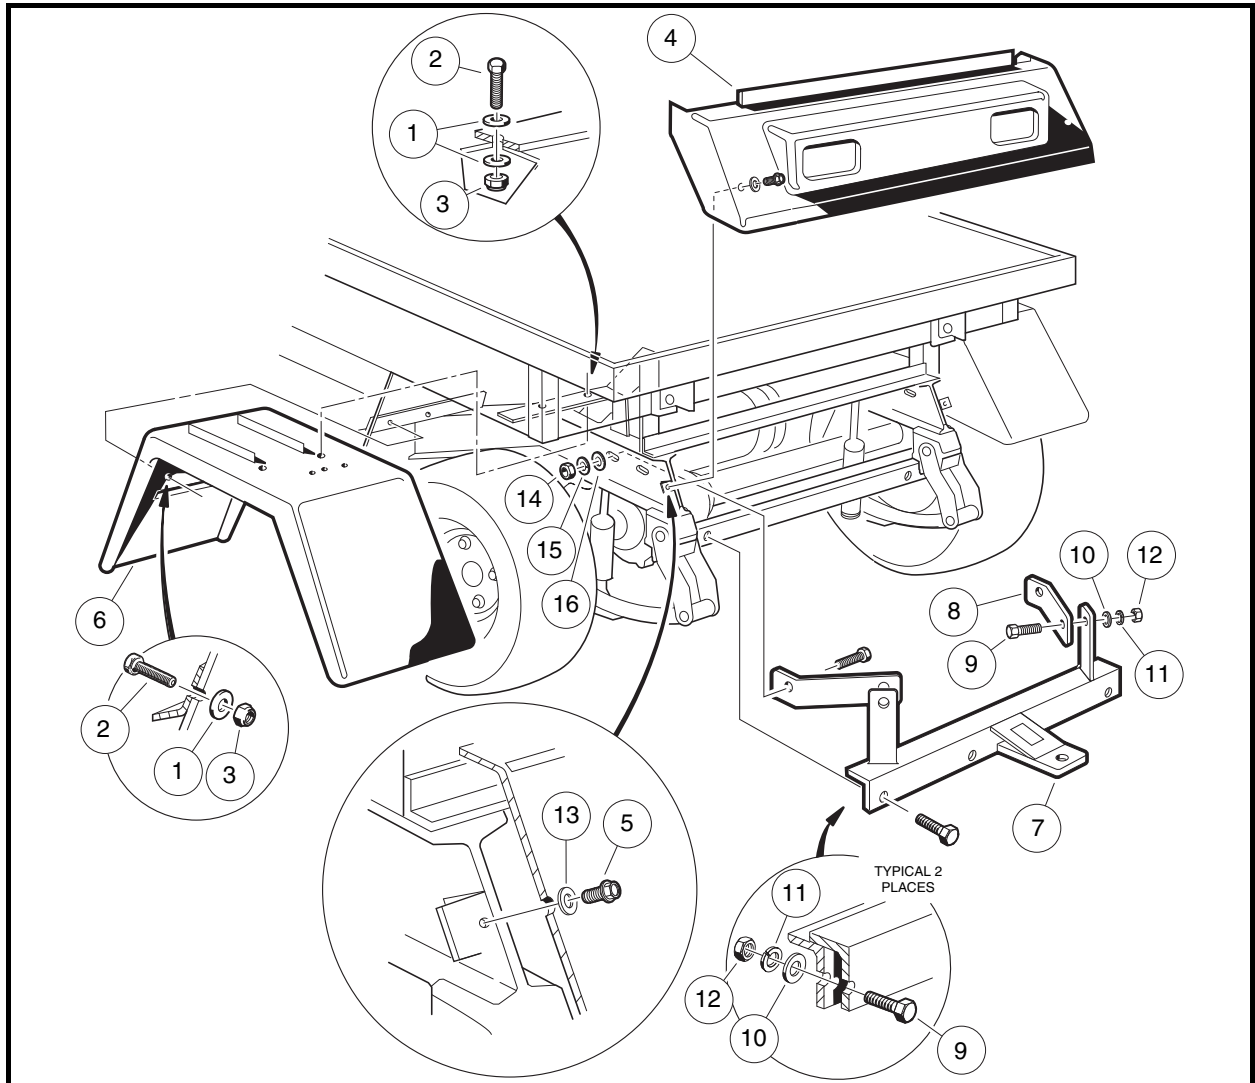
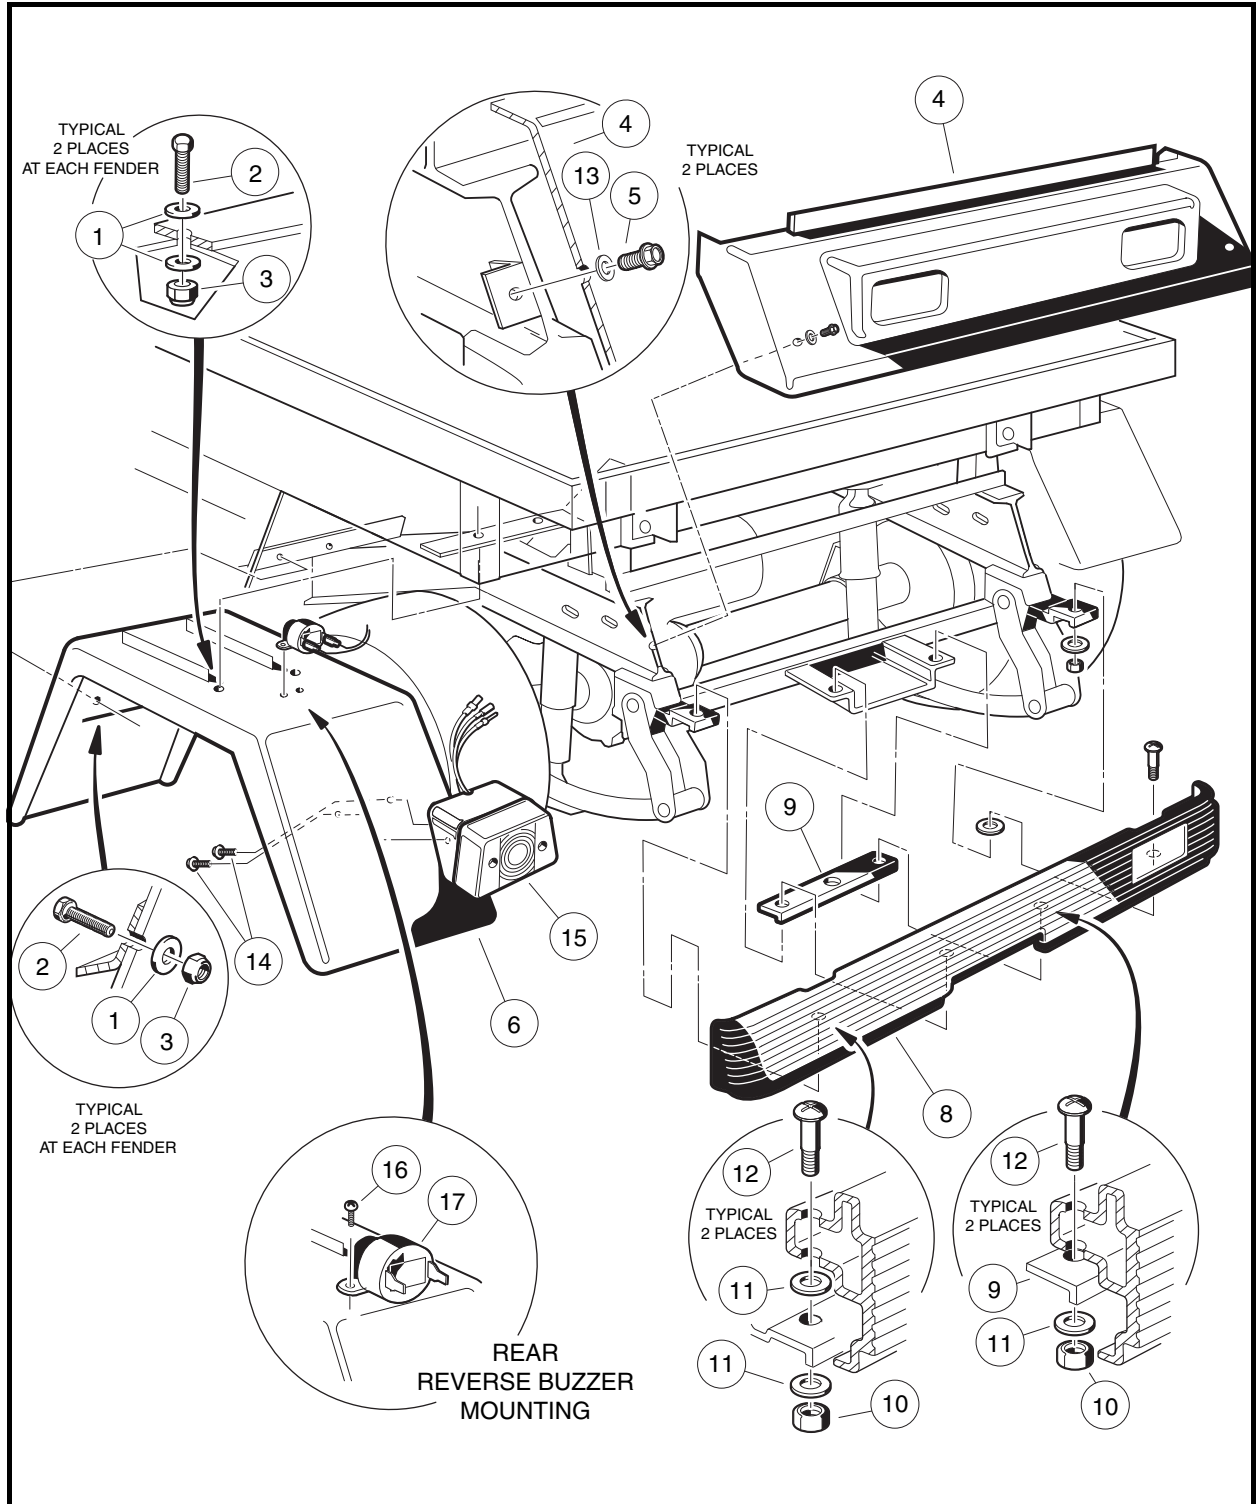

Figure 4-5 Rear Fender, Trailer Hitch (Heavy Duty), and Tailskirt – Turf 1, 2, Carryall 1, 2, and 2 Plus
Figure 4-6 Rear Fender and Tailskirt – Turf 6 and Carryall 6
- 1.1. Remove the two screws (14) that secure taillight (15) to the rear fender (**Figure 4-6, Page 4-14**).
2. Remove two nylon lock nuts (3), flat washers (1), and 1/4 x 1 bolts (2) from front of fender (6) (**Figure 4-5, Page 4-13 or Figure 4-6, Page 4-14**).
3. Remove two nylon lock nuts (3), flat washers (1), and 1/4 x 1 bolts (2) and flat washers (1) from the top of fender (6) (**Figure 4-5, Page 4-13 or Figure 4-6, Page 4-14**).
- 4.1. Remove pan-head screws (16) connecting reverse buzzer (17) to rear fender (6) and disconnect the two wires from the reverse buzzer (**Figure 4-6, Page 4-14**).
5. Remove fender (6) from vehicle (**Figure 4-5, Page 4-13 or Figure 4-6, Page 4-14**).
2. Where the hitch (7) is mounted to frame, remove two nuts (12), lock washers (11), flat washers (10), and bolts (9) (**Figure 4-5, Page 4-13**).
3. Where the hitch (7) is mounted to hitch brace (8), remove the nut (12), lock washer (11), flat washer (10), and bolt (9).
4. Remove hitch (7) from vehicle.
1. Install trailer hitch (7) in the reverse order of removal (**Figure 4-5, Page 4-13**). Tighten hardware to 15 ft-lb (20.3 N·m).
1. Remove two thread-forming screws (5) and flat washers (13) from tailskirt (4) and lift tailskirt from vehicle frame (**Figure 4-5, Page 4-13 or Figure 4-6, Page 4-14**).
1. Insert upper edge of tailskirt (4) under, and in front of, back edge of rear body (**Figure 4-5, Page 4-13 or Figure 4-6, Page 4-14**).
2. Align holes in tailskirt (4) with holes in vehicle frame. Position tailskirt flush against frame.
3. Install two thread-forming screws (5) and flat washers (13) in tailskirt and tighten to 80 in-lb (9.0 N·m).
1. Remove four lock nuts (10), six flat washers (11), four phillips bolts (12), and mounting plate (9) from rear bumper (8) (**Figure 4-6, Page 4-14**).
1. Install the rear bumper in the reverse order of removal. Tighten nuts to 65 in-lb (7.3 N·m) (**Figure 4-6, Page 4-14**).